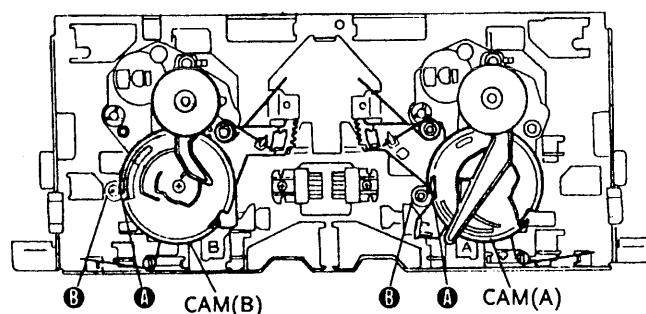

Fig. 1. STOP POSITION
When the CAM (A) and CAM (B) removed or replaced. Make sure to install these cam's (marked **A** position) with marked **B** position of chassis as show in Fig. 1.